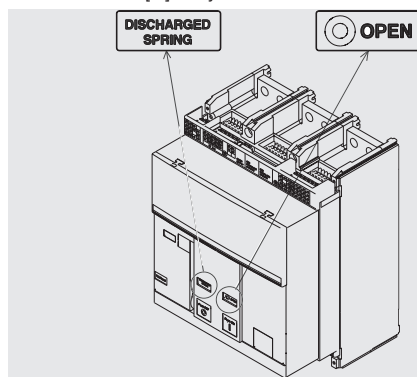

Figure 41
1. Check that the circuit-breaker is open (open / closed indicator "O - OPEN"), and check that the springs are discharged (spring signalling device "white - DISCHARGED SPRING") as indicated in Figure 41.